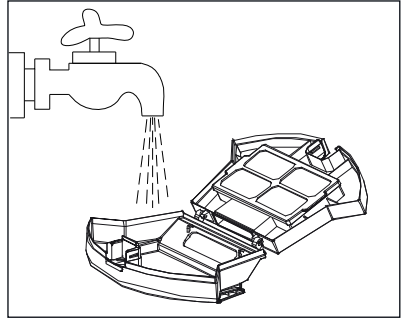

Fig. 12
- 6) Clean the dust container **14** and the sieve filter with cold or lukewarm water (see Fig. 12). Allow the dust container **14** and sieve filter to air dry completely before reinserting the dust container **14** into the appliance.